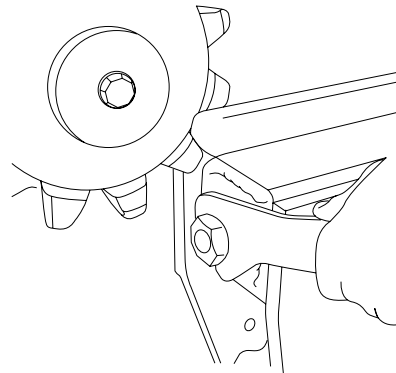

Figure 20
2. Use spanner wrench to turn adjuster nut clockwise to loosen, and counter-clockwise to tighten [Figure 20].